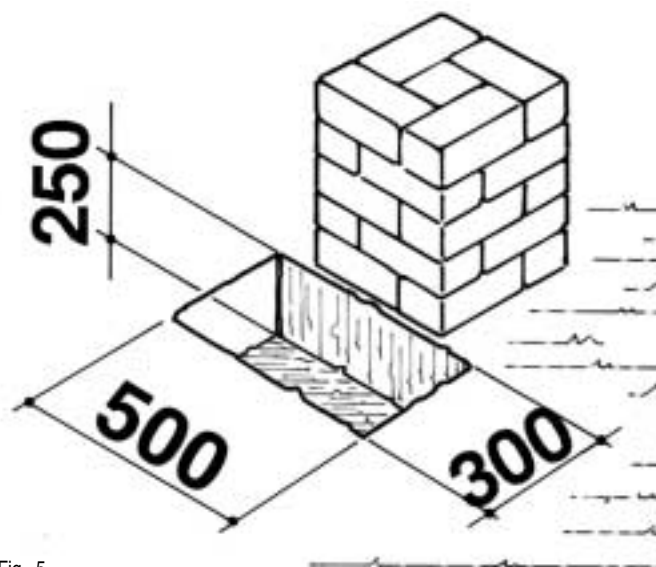

Fig. 5
- Dig the pit fully up to the wall or gate post, keeping to the dimensions indicated in the drawing and remembering that the hinge centre should fall half way along the Ø 500 dimension (fig 5).